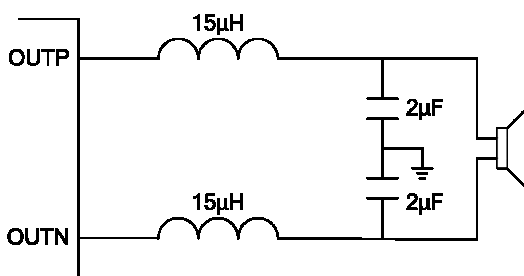

Figure 4. Typical LC Output Filter, Speaker Impedance= 4Ω
4. Output Filter. The ferrite EMI filter (Figure 4)